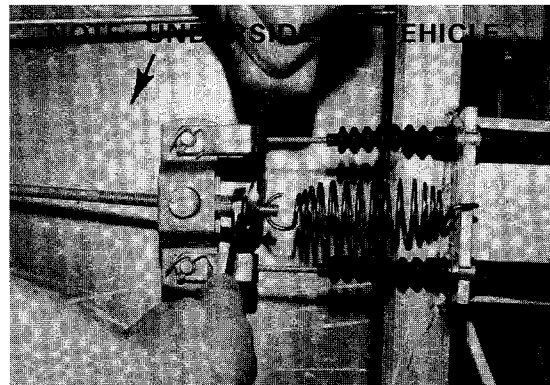

Figure 13-2
2. Loosen jam nuts on brake equalizer rod (Figure 13-2), to provide slack in brake cables and allow brake levers to return to fully released position.